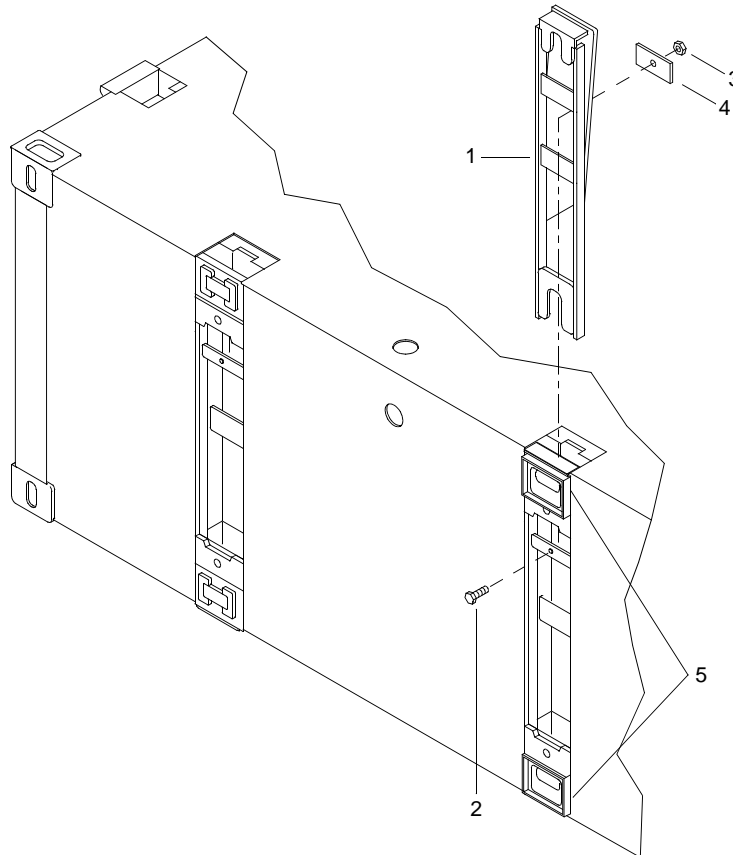

Figure 2. Female Guillotine Connector Assembly
2. Disassemble female guillotine connector (figure 2, item 1) assembly.
- a. Remove bolt (figure 2, item 2), nut (figure 2, item 3) and friction plate (figure 2, item 4).
- b. Pry up on guillotine connector bar (figure 2, item 1) using a crowbar.
- c. Remove guillotine connector bar (figure 2, item 1) from guillotine lock housings (figure 2, item 5).
4. Inspect female guillotine connector bar (figure 2, item 1) for cracks, cuts or corrosion. If damaged, repair or replace guillotine connector bar.
6. Inspect guillotine connector female lock housings (figure 2, item 5) for cracks, cuts or corrosion. If damaged, replace guillotine connector lock housings.
8. Inspect female guillotine connector assembly friction plate (figure 2, item 4) for cracks, cuts or corrosion. If damaged, replace friction plate.